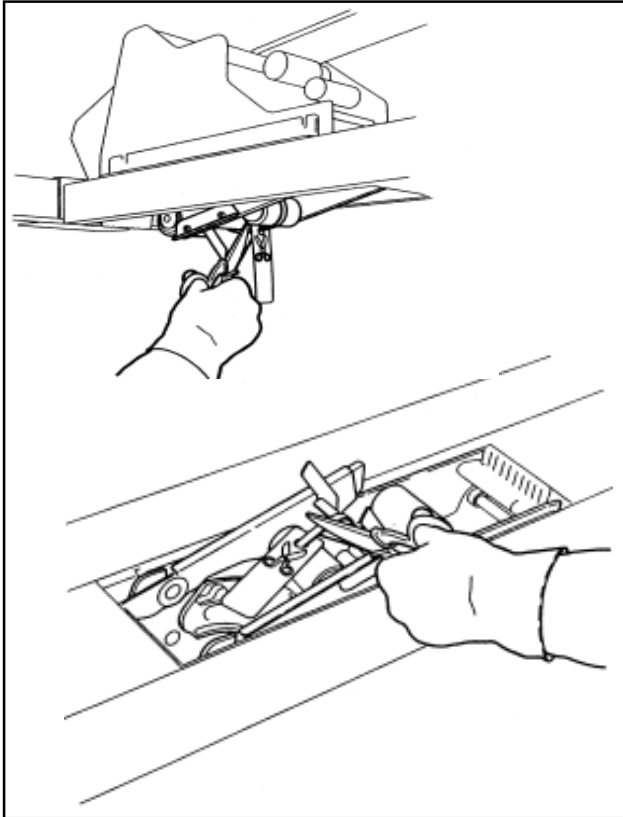

Figure 2-8—Cut the Plastic Ties
1. Cut the plastic ties holding the upper and lower taping heads in position, as shown in Figure 2-8. Hold taping head Buffing Roller while cutting the plastic tie. Allow buffing/applying arms to extend slowly.